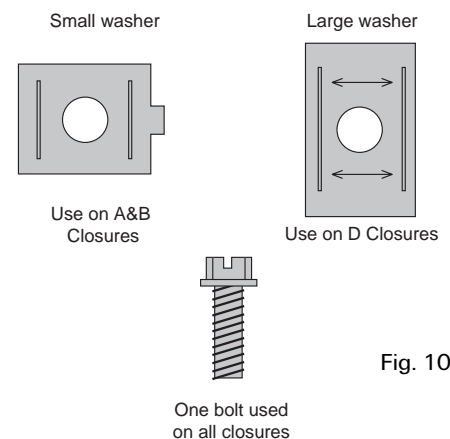

Fig. 10
3. Attach appropriate rectangular washer to base of closure with supplied bolt adjacent to the opened round ports. Two washers and one bolt are included with the cable seal kit, so be sure to install the right washer and bolt. (Figure 10, 11a, and 11b)